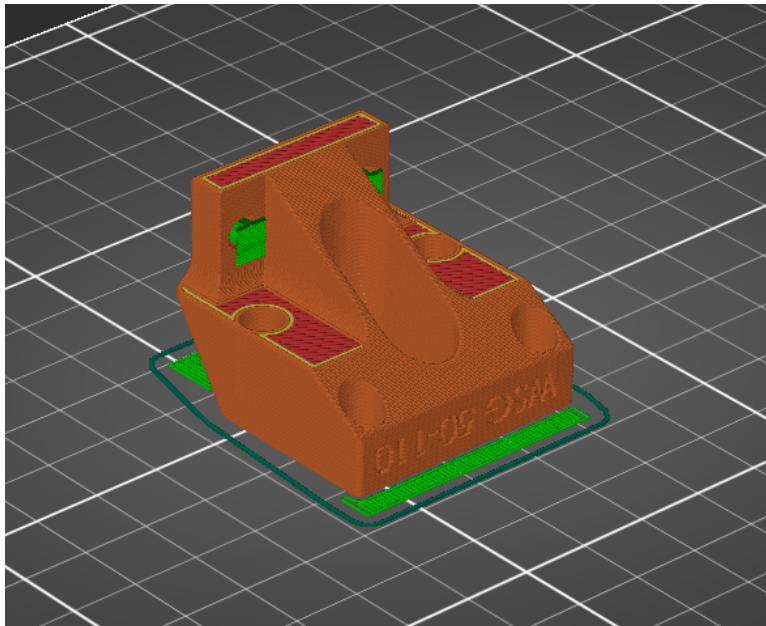

Figure 68: STL model of part *Gripper Finger Mount WSG 050-110* with support material in slicer
1. Print the *Gripper Finger Mount WSG 050-110* (Fig. 68) using the following settings: